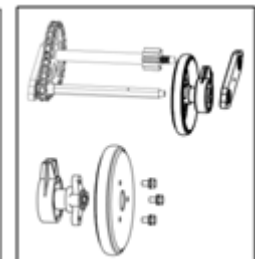

Fig. 27
1. Check the friction wheel for signs of wear or cracks and replace if necessary. Fig. 27
5. Remove the three screws holding the friction wheel side plates together, replace only the rubber ring. See Figure 27.